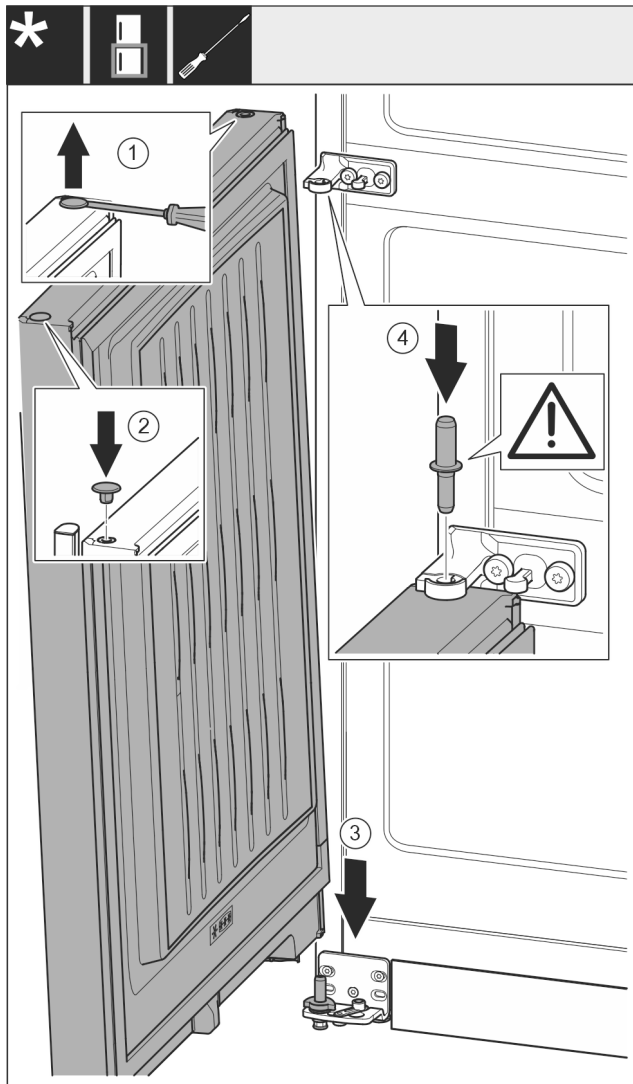

Fig. 18
- ▶ Carefully lift up the plugs with a slotted screwdriver and pull them out. Fig. 18 (1)
- ▶ Insert the plugs again on the other side of the door. Fig. 18 (2)
- ▶ Position the door from above onto the lower bearing pins. Fig. 18 (3)
- ▶ Insert the center bearing pin through the center bearing bracket into the bottom door. Make sure that the latching lug is pointing to the rear. Fig. 18 (4)